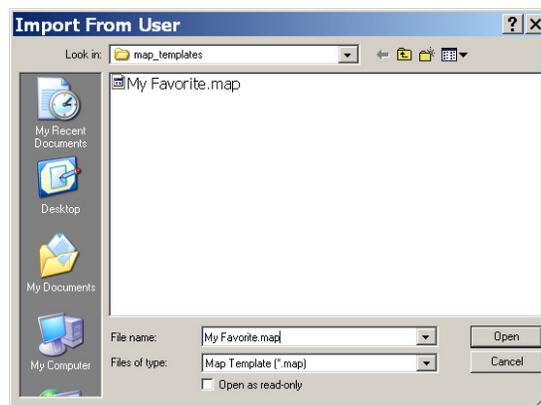

Figure 6. File | Import Map Dialog
- **File | Import** displays the **Import From User** dialog shown in Figure 6. Simply select the desired *map* file from those listed and click the **Open** button. Alternatively, you may simply double-click a file. The *map* file you select is copied into the `[project]\maps` directory. This is handy when you want to use a *map* file between two or more projects. As shown in Figure 6,